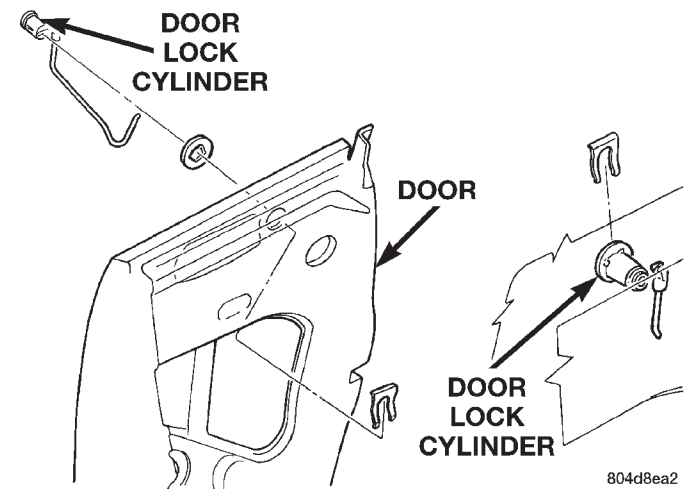

Fig. 33 Door Lock Cylinder
- (1) Remove outside door handle.
- (2) Remove clip holding lock cylinder to outside door panel (Fig. 33).
- (3) Disengage clip holding link to key cylinder.
- (4) Separate lock cylinder from outer door panel.